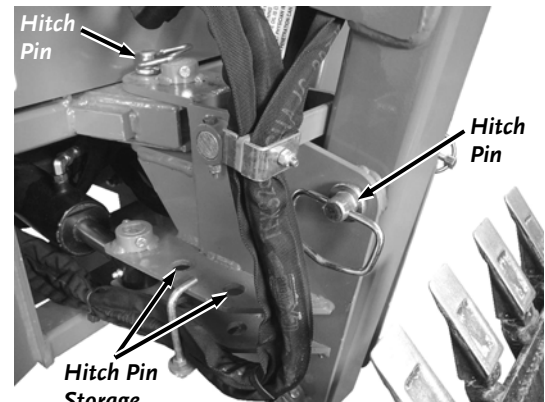

Figure 13
3. Remove the Lynch Pins from the two Hitch Pins and remove the Hitch Pins from the Boom (**Figure 13**).